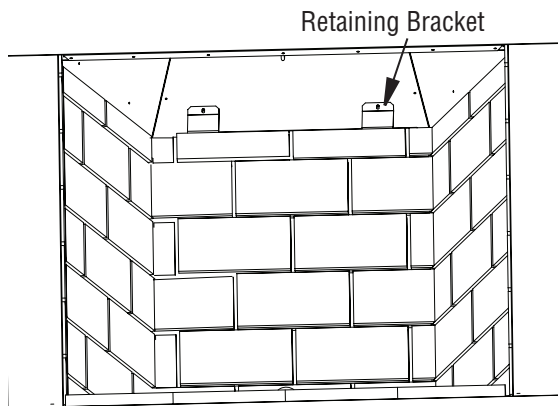

Figure 23 - Installing Rear Wall
5. Install the rear firebrick wall last. Place the wall face side down on the hearth with the bottom of the wall toward the rear of the firebox and the top toward the front of the fireplace. Tilt the wall up toward the back of the firebox. Secure with 2 rear retaining brackets provided (Figure 23, page 14).